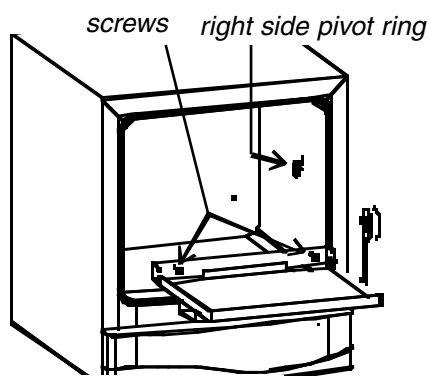

Figure 8
3. Place the rocker in the incubator and secure it to the back of the incubator with the two existing screws from the back panel, as shown in Figure 8.